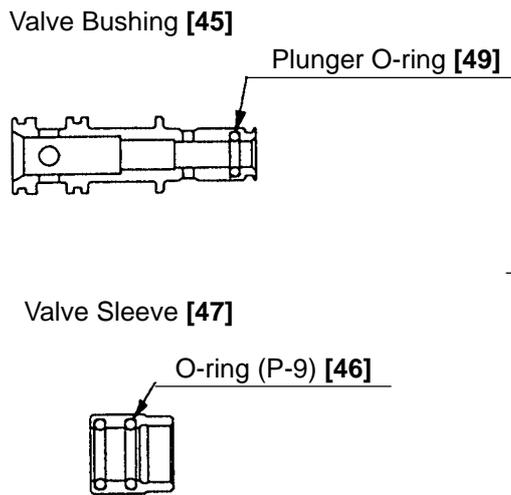

Fig. 18
- Extract the Roll Pin D3 x 30 [38] with a 3-mm dia. roll pin remover, and take out Plunger (B) [52], Plunger (B) Spring [51], Washer M5 [50], Trigger [59], and the Trigger Plunger [58].
- Insert a flat-blade screwdriver (or J-125 valve bushing spanner) into the groove on the Trigger Valve Bushing [57] and, being very careful not to damage or deform the groove portion, turn it counterclockwise to loosen it. After the Trigger Valve Bushing [57] has been removed, the Valve Packing [53] and Urethane Ball (C) D7.14 [54] can be taken out. (Please note that the Trigger Valve Bushing [57] can be most easily and safely removed with the J-125 valve bushing spanner.)
- After removing the Trigger Valve Bushing [57], pull down strongly on the Valve Bushing [45] to remove the Valve Bushing [45], Valve Sleeve [47], Plunger (A) [42], and the Plunger Spring [41].
- Remove the Plunger O-ring [49] inside the Valve Bushing [45] and the two O-rings (P-9) [46] inside the Valve Sleeve [47] by means of a setting pin with a rounded tip (Fig. 18).